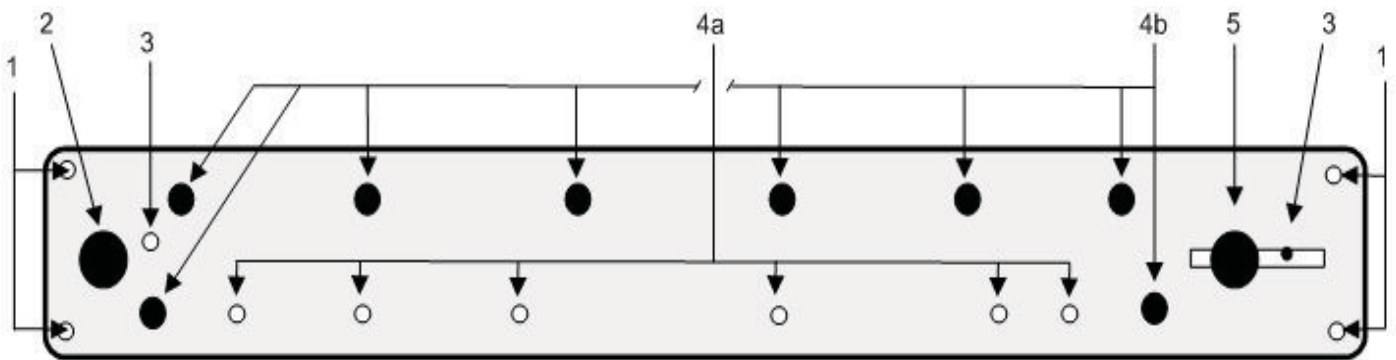

Fig. 26a — Conveyor Side View (blank side)
(See figs. 26a and 26b on pg. 19)
3. Locate the belt tension lock screws (see figs. 26a and 26b, #5). Loosen, but do not remove, using a 3/16” hex key.
5. Using a 5/32” hex key, remove the maintenance access screws (Fig. 26a and 26b, #4b).